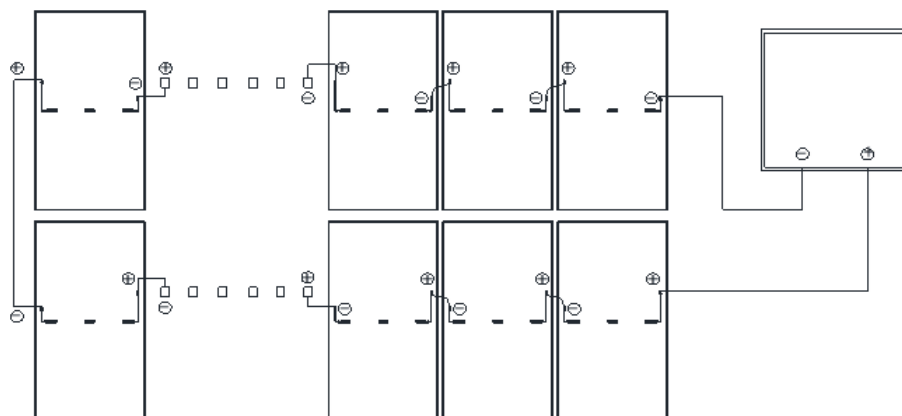

Fig. 9-3 Vertical installation of long cable modules
- When install modules with long cables, connect it with its own cable length and do not use extended cables, see Fig. 9-3 and 9-4, When connect adjacent modules in different rows or columns, connect cables on the same side and avoid connecting cables along the diagonal line.